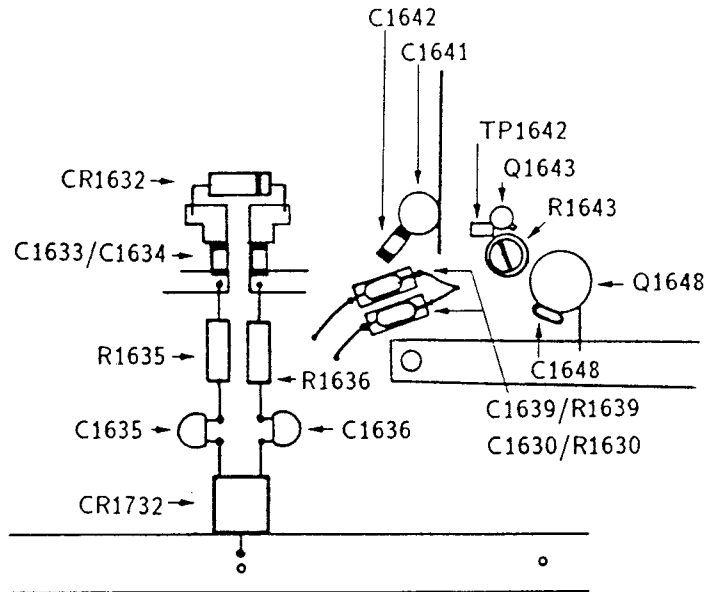

Fig. 4-24. Dressing Front of Stripline
1. Remove stripline shield, and dress C1639/R1639 and C1630/R1630 as per Figure 4-24. Check that components do not short to anything. C1635 and C1636 should lie flat and have no more than 1/16-inch between the board and component insulation.